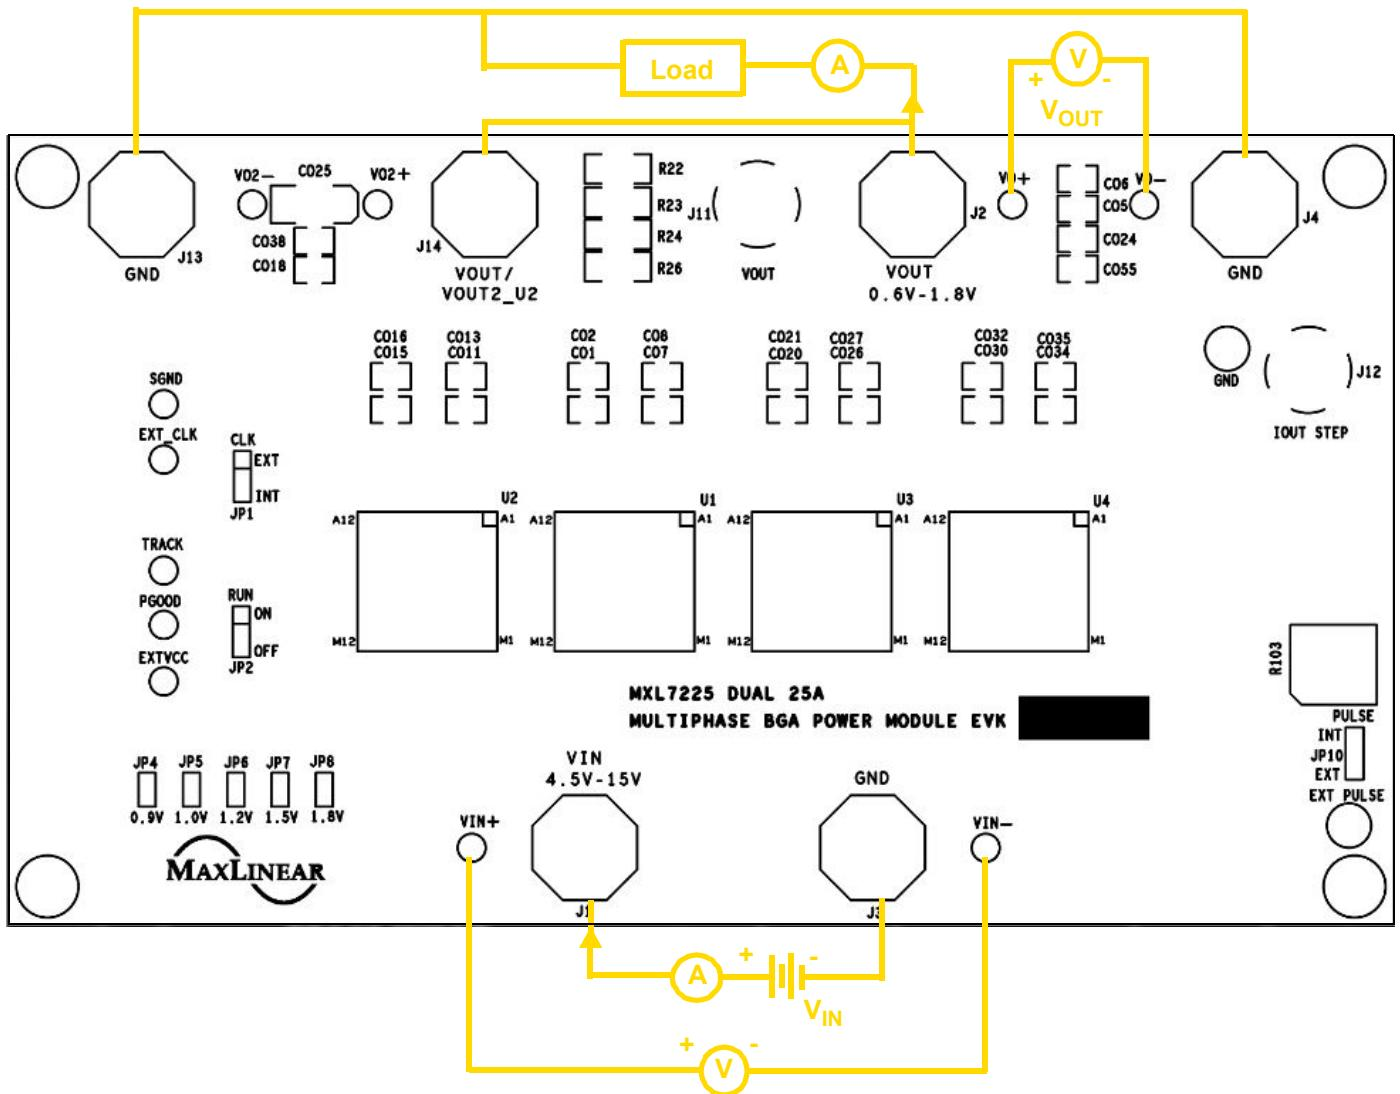

Figure 1: Monitoring V_{IN} and V_{OUT}
2. With a power supply turned off and within a V_{IN} specification of 4.5V to 15V (12V typical), connect it to V_{IN} and GND with short, thick leads. Use test pins V_{IN+} and V_{IN-} to monitor V_{IN} and GND respectively. See locations in Figure 1.
3. For the output, connect a meter and electronic load initially set to 0A, that will be no more than the above maximum I_{OUT} (200A), to V_{OUT} and GND with short / thick leads capable of this current. See setup and locations in Figure 1.